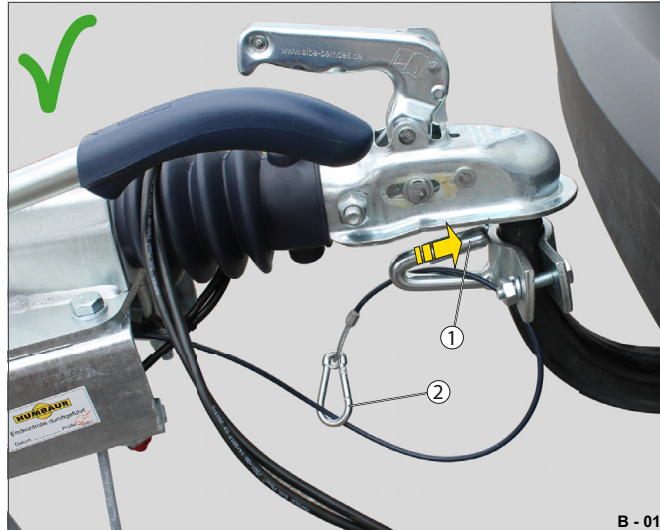

Fig. 18 Safety cable secured
- Make sure that the spring hook (Fig. 18 /2) is closed.